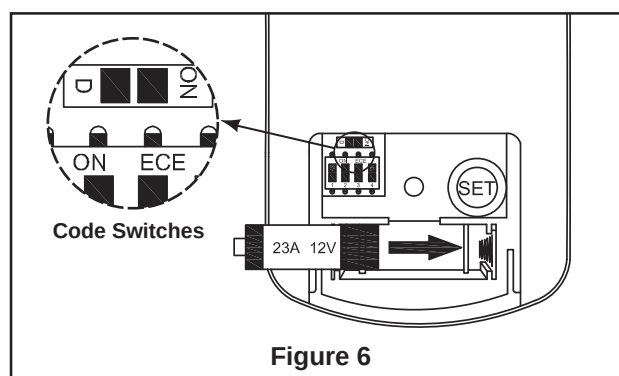

Figure 6
- ☐ 8. The "ON" selection on remote (J) is the light dimmable selection and is to be used with all bulbs other than CFL. The "D" selection is to be used with CFLs (as CFLs cannot be dimmed). The receiver provides the following protective function:
- Lock position: The DC motor has a built-in safety feature against blade obstruction against obstruction during operation. If something obstructs the fan blades the motor will stop operating after 30 seconds of interruption. Please remove obstacles and reset. (Figure 6)